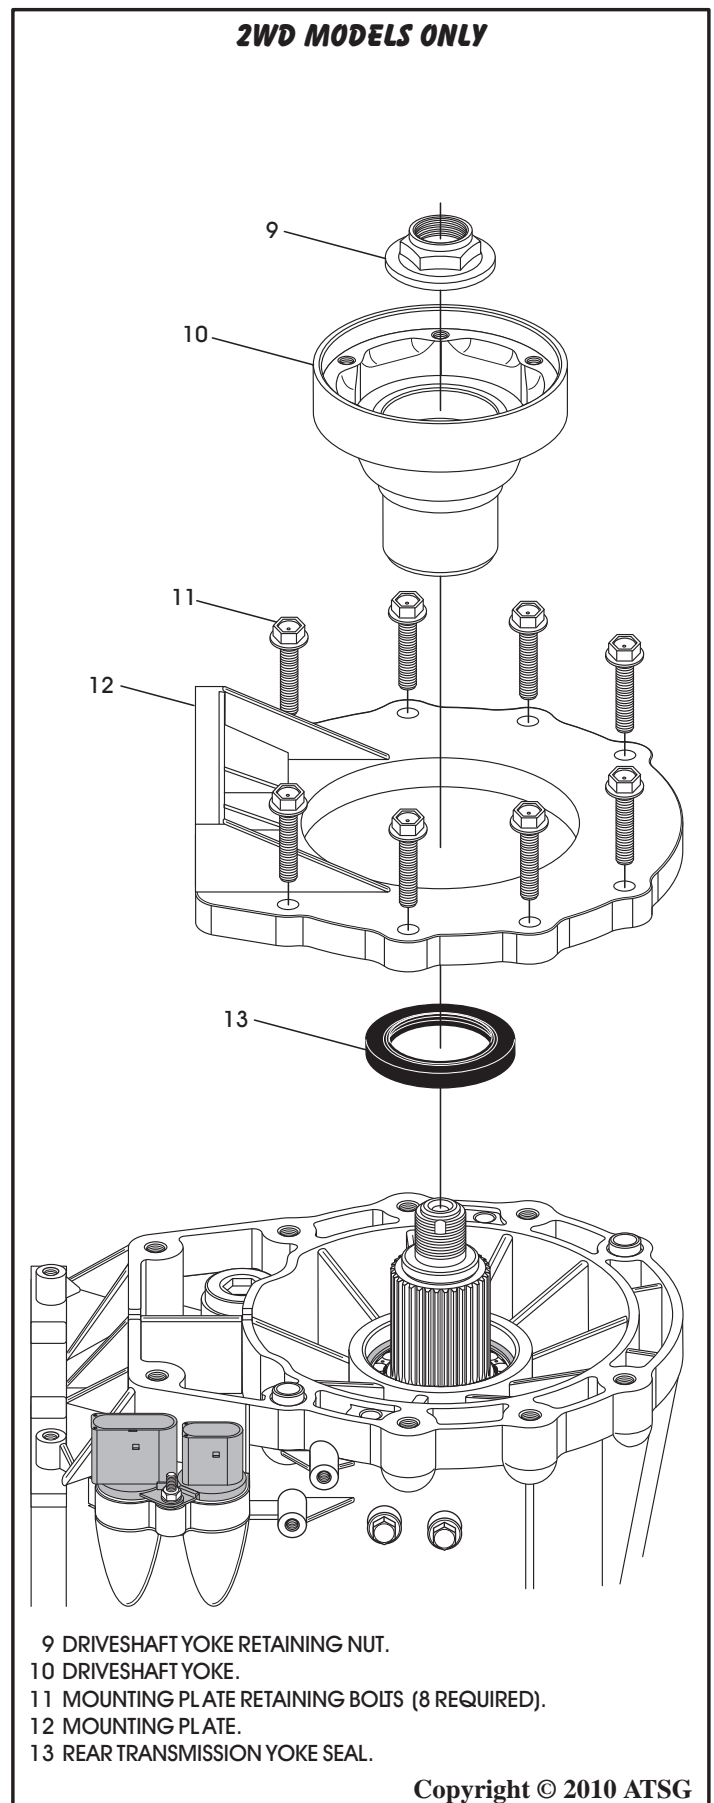

Figure 240
73. If you are working on a 2WD version, as shown in Figure 240, install the rear seal.
74. Install mounting plate, as shown in Figure 240, and the eight mounting plate retaining bolts.
76. Install the drive shaft yoke and retaining nut, as shown in Figure 240, and torque retaining nut to 82 N·m (60 ft.lb.).